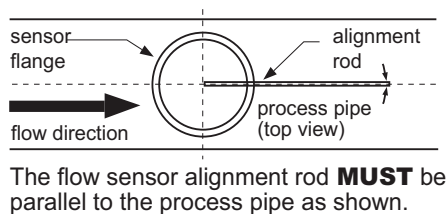

Fig. 6
- Insert the flow sensor into the sensor fitting, making sure the alignment hole on the sensor flange is pointing downstream. (Fig. 6)
- Place the alignment rod in the alignment hole on the sensor flange. Align the flange so rod is parallel to the process pipe. (Fig. 6)